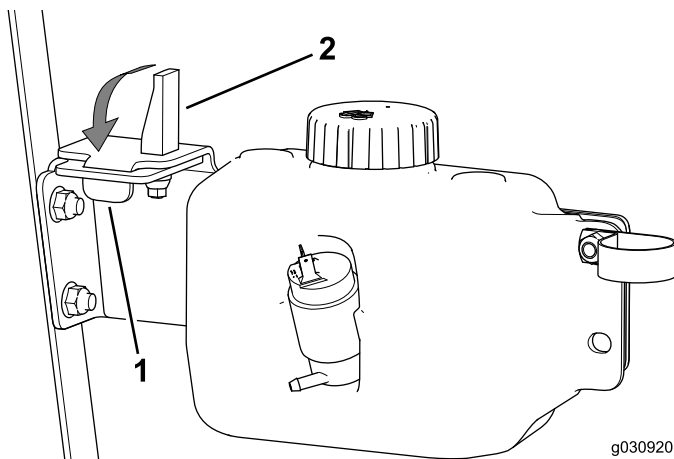

Figure 34
5. Insert the tab into the slot and the swell-latch bushing into the hole in the tank plate (Figure 34).
6. Flip the swell-latch lever down (Figure 34).